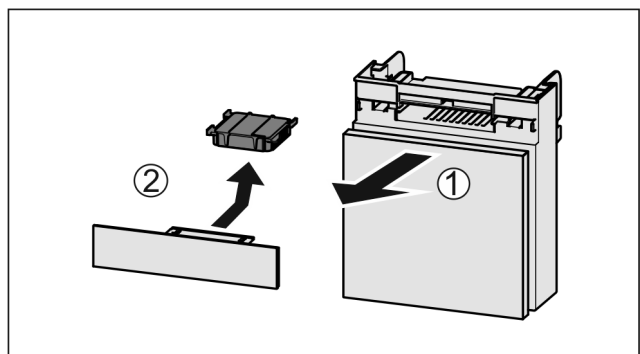

Fig. 39
- ▶ Pull out the compartment Fig. 39 (1).
- ▶ Remove the carbon filter Fig. 39 (2).